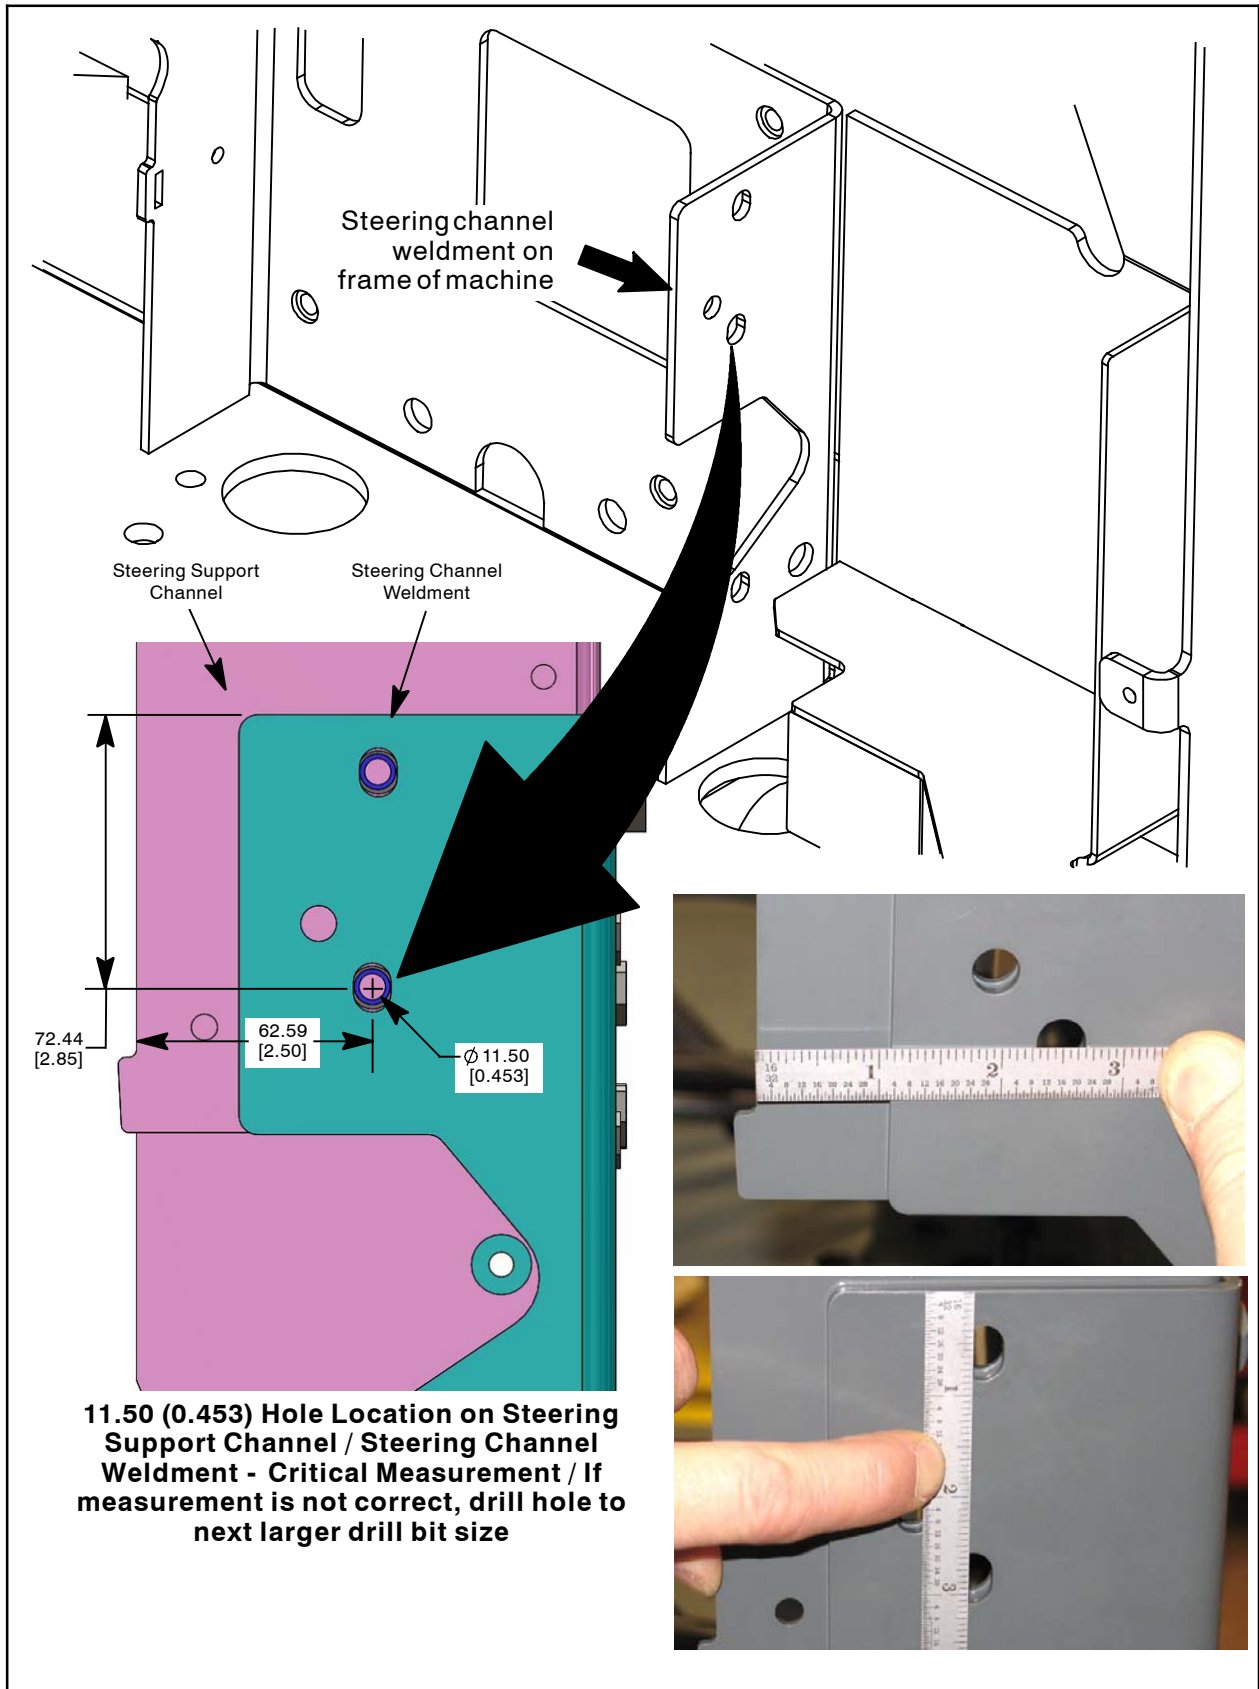

FIG. 4
4. Measure and mark where the 29/64 in. (11 mm) hole is to be drilled through the steering channel weldment on the frame of the machine, the steering support channel, and the propel pedal assembly. (Fig. 4)
5. Remove parts / components necessary to access / drill hole through the steering channel weldment on the frame of the machine, the steering support channel, and the propel pedal assembly marked in the previous step. (Fig. 4)
6. Drill pilot holes as necessary through the steering channel weldment on the frame of the machine, the steering support channel, and the propel pedal assembly. (Fig. 4)
7. Drill a 29/64 in (11 mm) hole through the steering channel weldment on the frame of the machine, the steering support channel, and the propel pedal assembly. (Fig. 4)